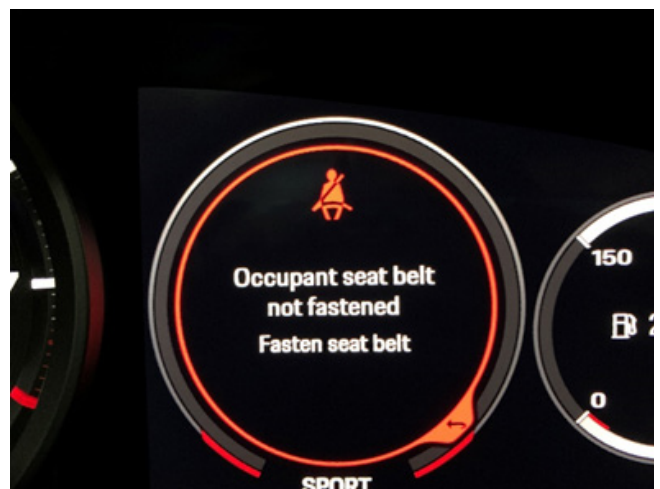

Figure 1:
The airbag control unit (CU) counts the number of drive cycles where the seat belt is not disconnected after the cycle is complete (i.e., the vehicle is shut off). Once the threshold of 5 cycles is reached, the warning light shown in Figure 1 appears in the instrument cluster.
- a. Note: If the red warning (Figure 1) is present in the instrument cluster upon the vehicle's arrival for service, continue to Step 3. If no warnings are present at the time of arrival, begin with Step 4.
3. Clear all relevant fault codes from the fault memory. If the relevant fault codes will not clear via the PIWIS tester and the red warning message from Figure 1 is still present in the instrument cluster, follow the procedure outlined in steps (a) through (g) below.
5. Perform the drive cycle outlined below to set the red warning in Figure 1.
- e. Repeat steps (c) and (d) until the red warning in Figure 1 appears in the instrument cluster. The warning typically appears within 5-8 cycles.
6. Perform the instruction in Steps (3a) through (3g) to clear the warning (Figure 1) from the instrument cluster. **Take a service VAL (Post-VAL).**
7. If the red warning (Figure 1) is manually set and subsequently cleared by performing the instructions in Steps (5a) through (5f), the system operates as designed.